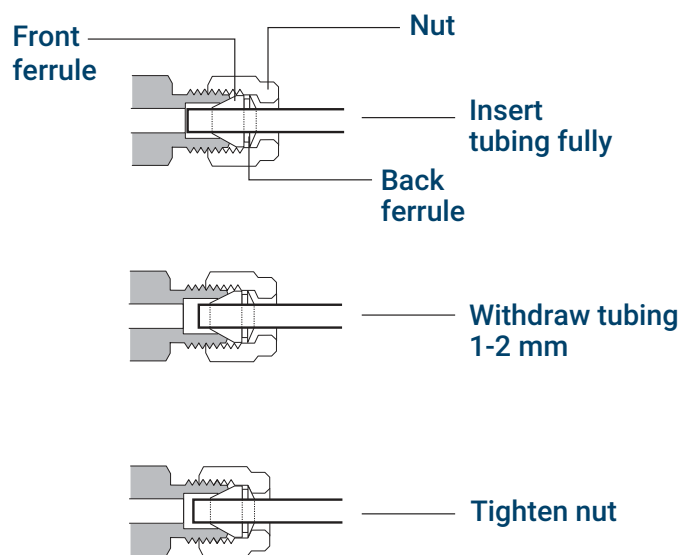

Figure 55. Insert the tubing
4. Push the tube fully into the plug, then withdraw it approximately 1 to 2 mm. See **Figure 55**.